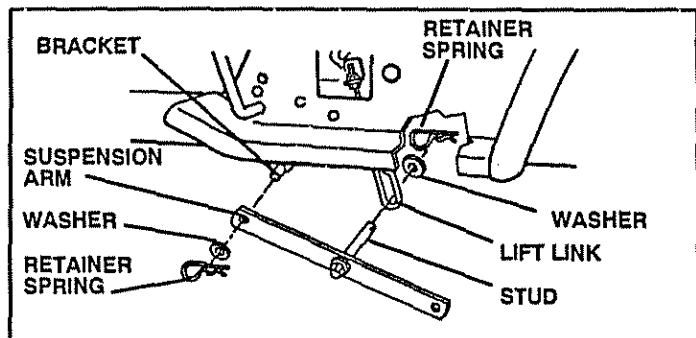

FIG. 8
- Place the suspension arms on brackets on both sides of frame (See FIG. 8). Retain with washers and retainer springs.